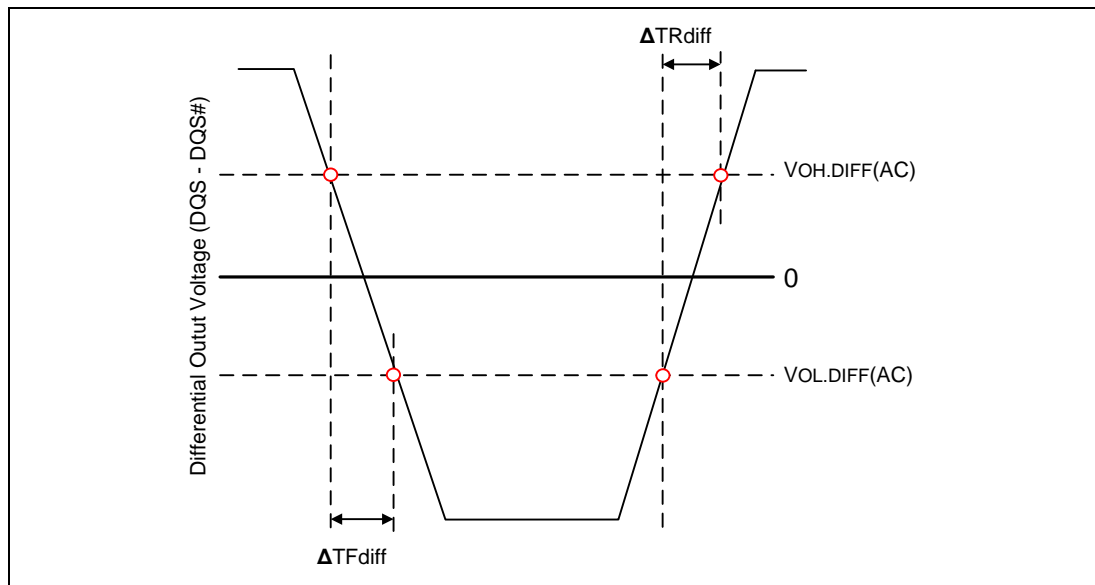

Figure 95 – Differential Output Slew Rate Definition
With the reference load for timing measurements, output slew rate for falling and rising edges is defined and measured between VOL.DIFF(AC) and VOH.DIFF(AC) for differential signals as shown in Table 28 and Figure 95.